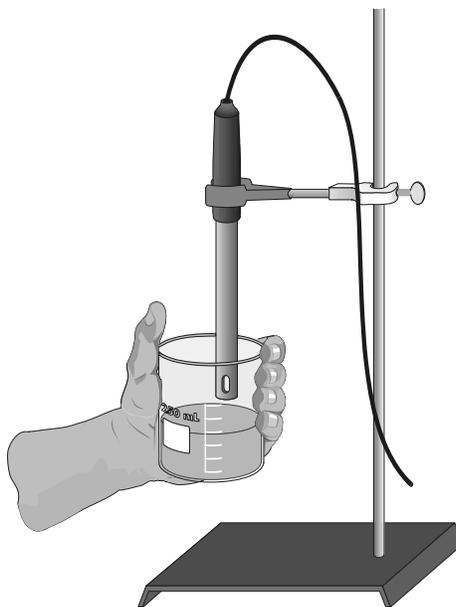

Figure 1
1. Obtain and wear goggles. Secure the Conductivity Probe with the ring stand and utility clamp, as shown in Figure 1.